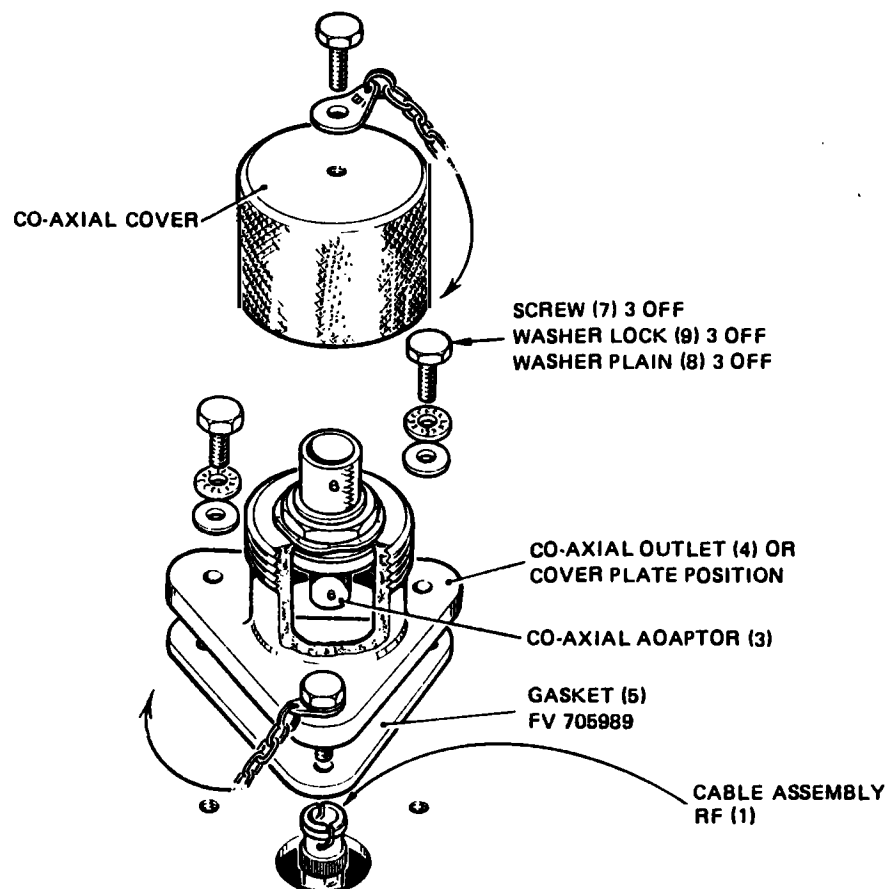

Fig 5 Co-axial outlet assembly diagram
A co-axial outlet position is provided, on MK II vehicles only, in the 'B' set position to allow a remote antenna to be used with the installation. Fit the co-axial outlet on the forward r.h.s. exterior as per Fig 5. Numbers in brackets after item title refer to item numbers in Table 3.
13.3.3 Assemble a co-axial outlet as detailed in Fig 5.